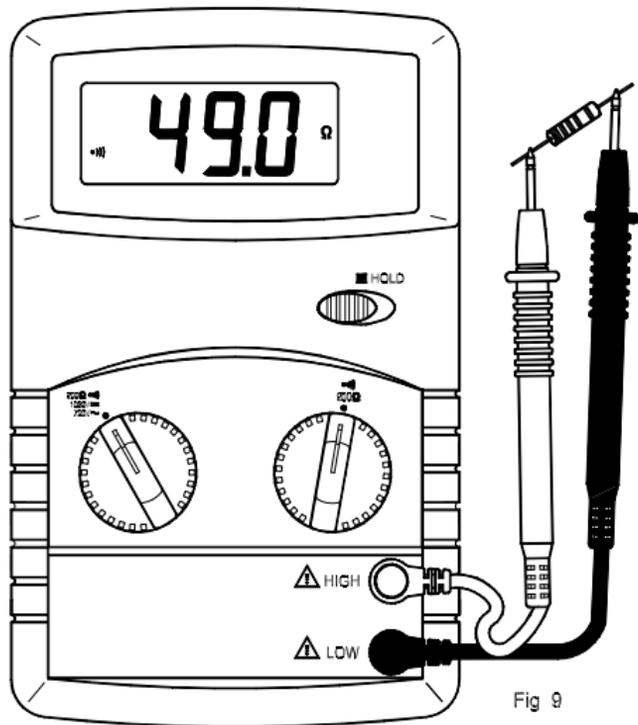

Fig 9
4.9 MEASURING RESISTANCE (See Fig 9)